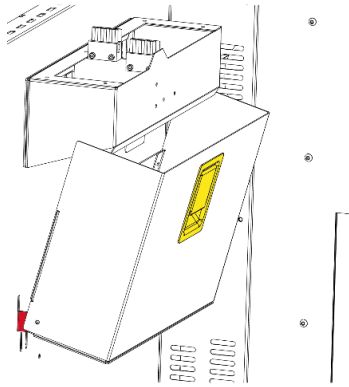

Fig. 78 Removing the cleaning station container – step 1
6. Tilt the container holder of the cleaning station and gently tilt the container towards the work chamber (Fig. 78 yellow).